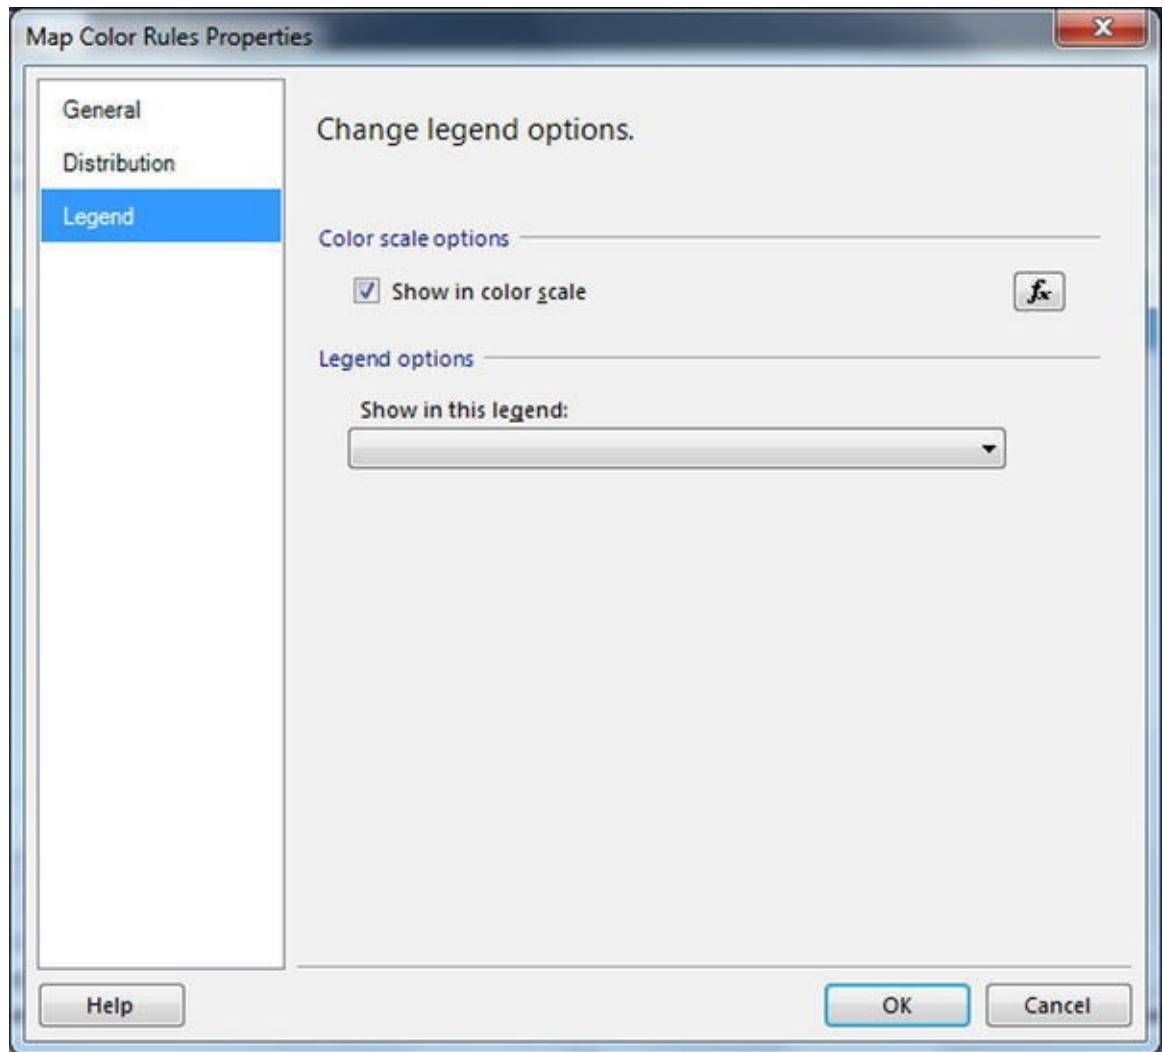

Figure 5-21. Adding or removing color distribution from a legend
32. Leave Show in color scale selected, but select the blank legend from the Show in this legend pop-up. The dialog will look like Figure 5-21.